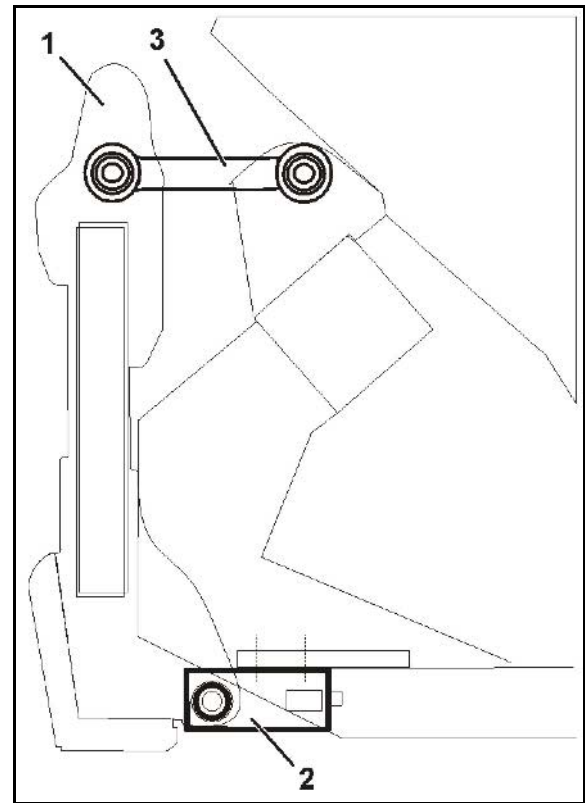

Fig. 17
5. Place the PTO shaft in the holder provided (Fig. 17).